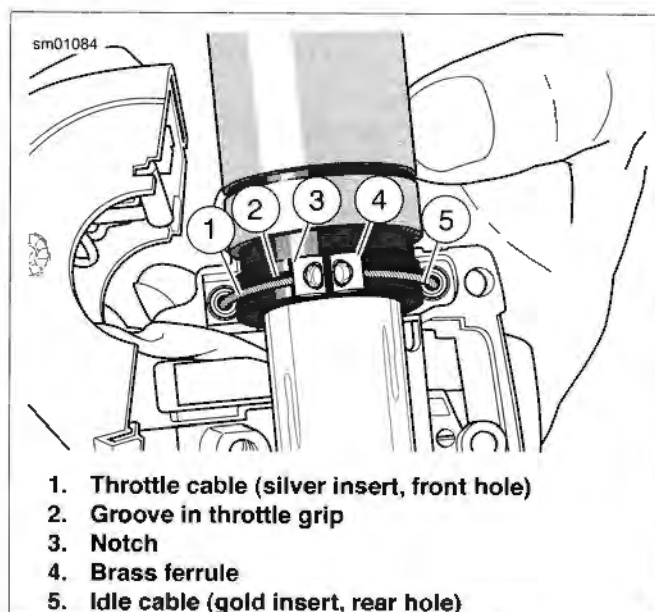

Figure 2-90. Throttle Cable Attachment
5. See Figure 2-90 Pull the cables from the housing by placing a drop of oil on the retaining ring that holds the cable in the housing, then firmly pull the bent tubing portion of the cable out of the housing using a rocking motion.
2. See Figure 2-90. Attach the control cable assemblies to the lower housing.
- a. Push the silver insert of the throttle cable (1) housing into the hole in front of the tension adjuster screw.
- b. Push the gold diameter insert of the idle cable (5) housing into the hole at the rear of the tension adjuster screw.